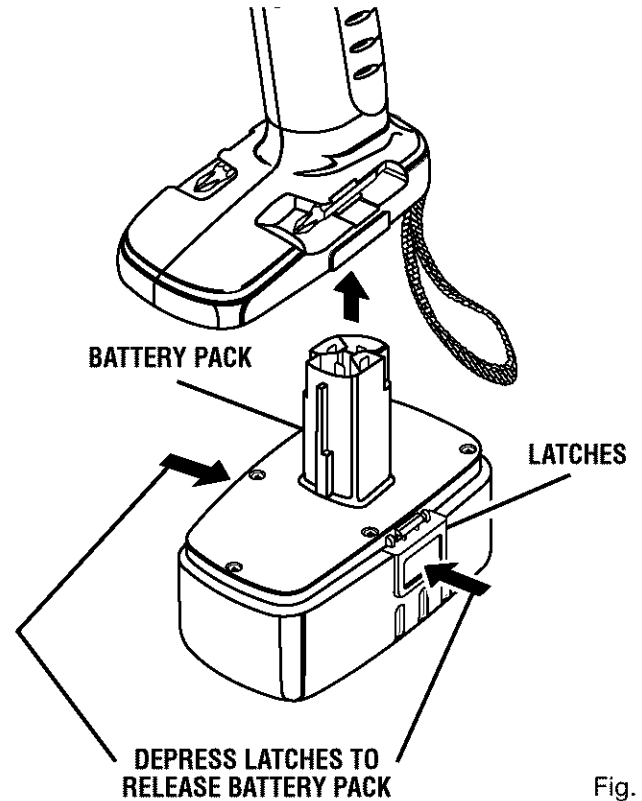

Fig. 5
- Place battery pack in this drill. Align raised rib on battery pack with groove inside drill. See Figure 5.
- Locate latches on side of battery pack and depress to release battery pack from your drill. See Figure 5.